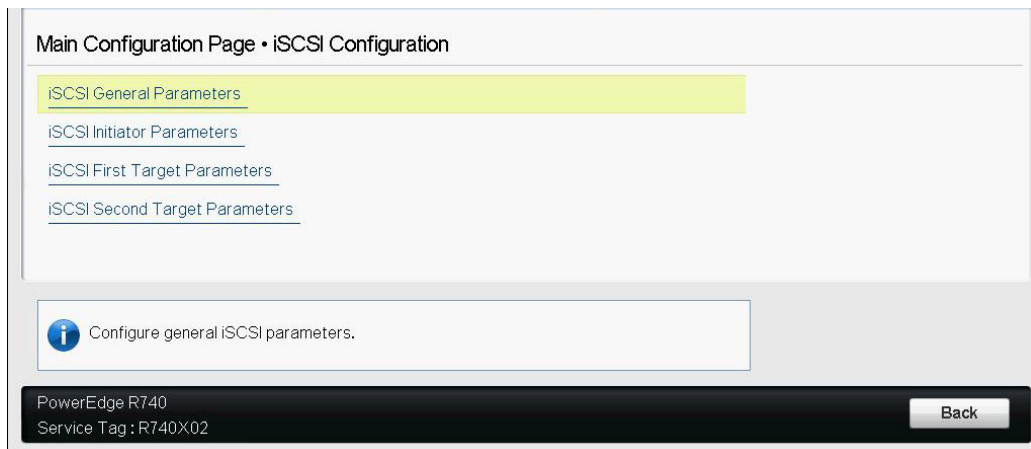

Figure 6-6. System Setup: Selecting General Parameters
2. On the **iSCSI Configuration** page, select **iSCSI General Parameters** (Figure 6-6), and then press ENTER.